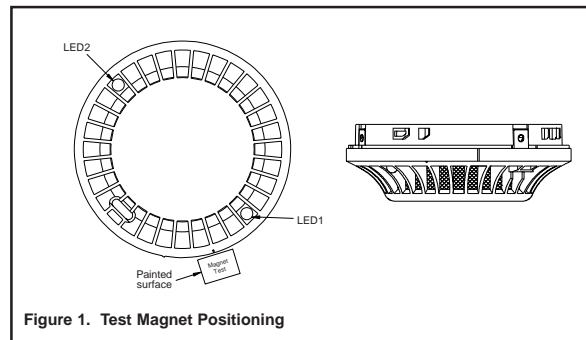

Figure 1. Test Magnet Positioning
- Test the sensor by positioning the test magnet (Model M02-04-optional) against the sensor body approximately 2cm from LED1 in the direction of the metering socket as shown in Figure 1.